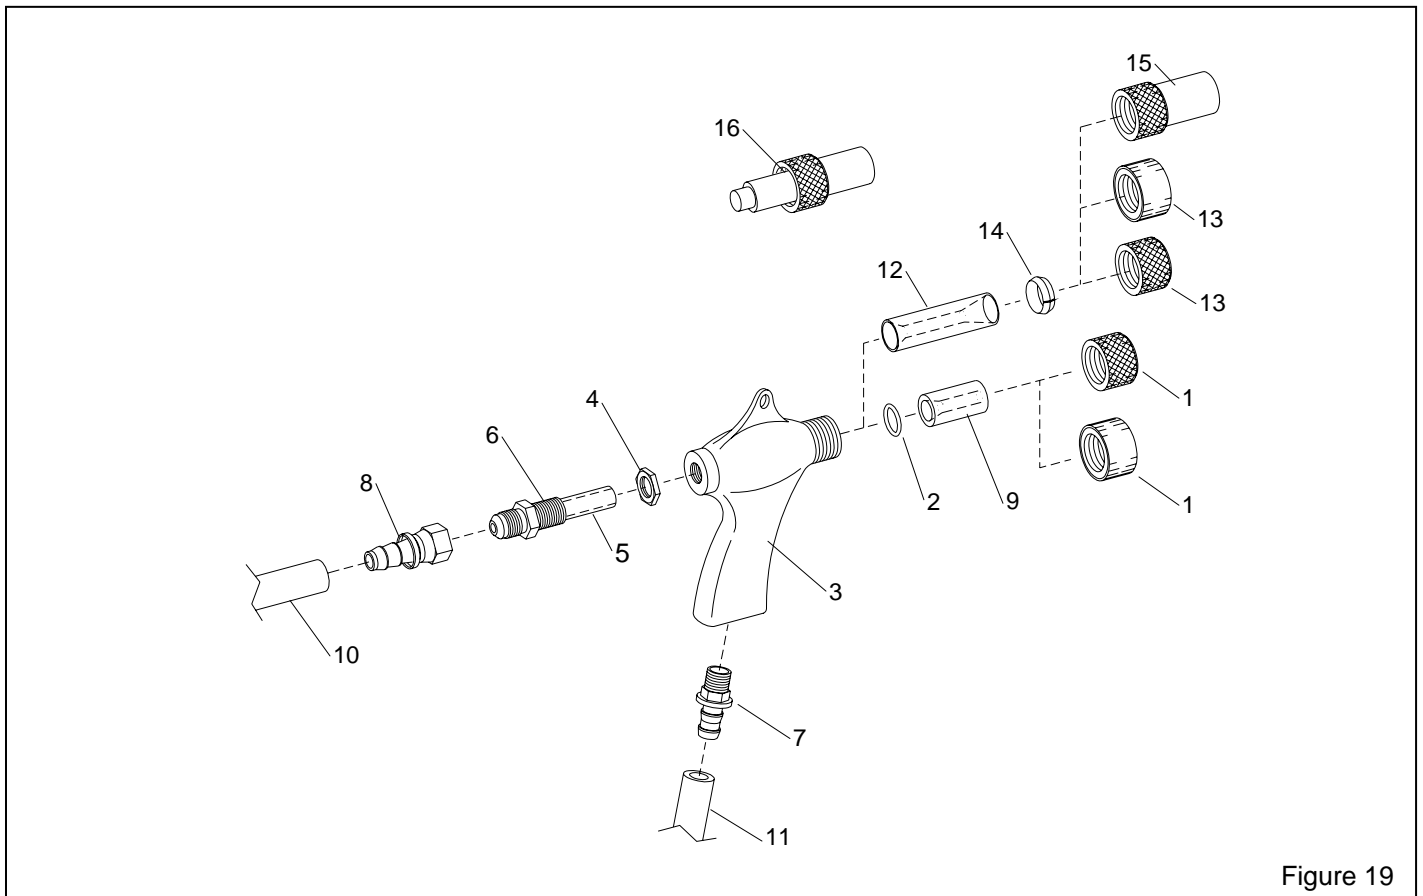

Figure 19
9.3 BNP Gun and Feed Assembly, Figure 19